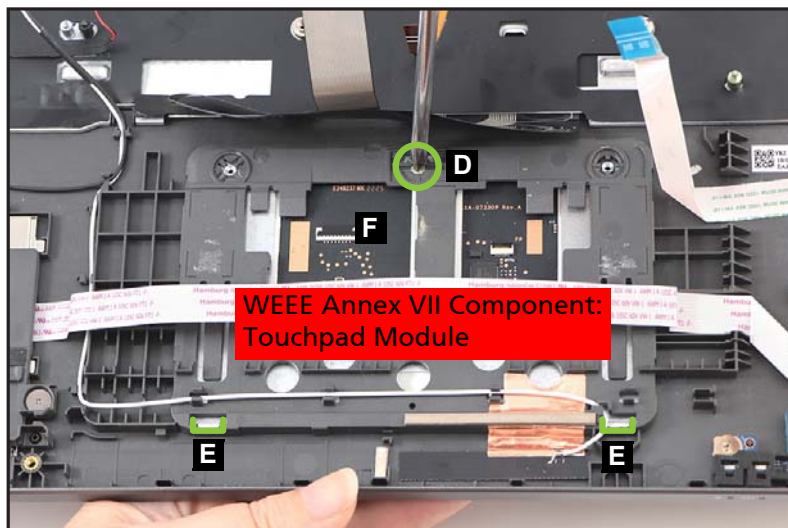

Figure 1-48. Touchpad Module Removal
5. Using the screwdriver, push the guide pin (D) firmly to release it from the top assembly (Figure 1-48).
6. Slide the touchpad module slightly to disengage it from the bottom latches (E), and then remove the touchpad module (F) from the top assembly (Figure 1-48).